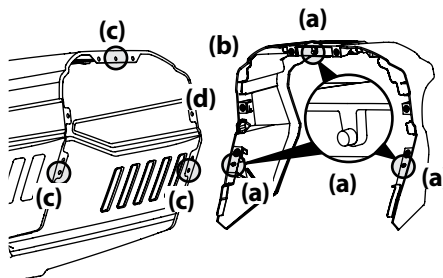

Figure 2-6
There are three (3) alignment posts (a) on the hood collar (b) that line up with corresponding alignment holes (c) in the hood (d). See Figure 2-6.